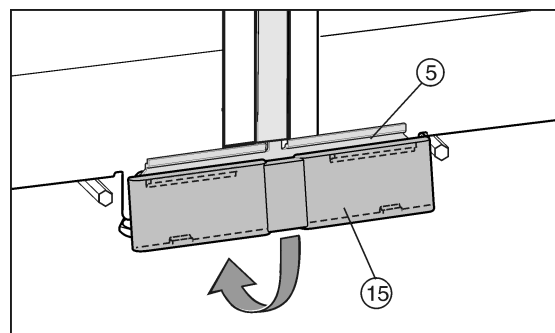

Fig. 28
- ▶ Position the lower cover *Fig. 28 (15)* from above onto the connecting panel *Fig. 28 (5)* and snap it down into place.